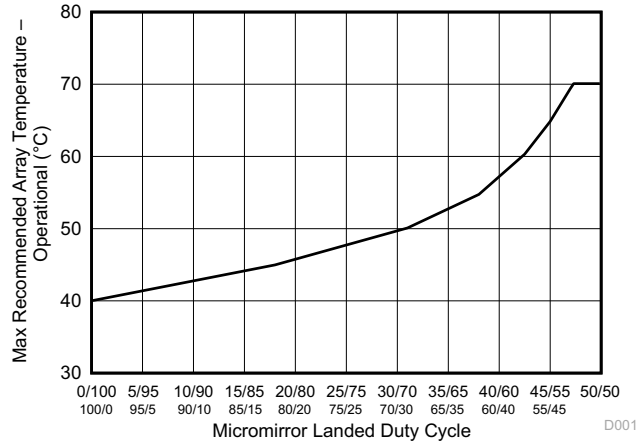

图 6-1. Max Recommended Array Temperature—Derating Curve
- (5) Per Figure 6-1, the maximum operational array temperature should be derated based on the micromirror landed duty cycle that the DMD experiences in the end application. Refer to Section 7.7 for a definition of micromirror landed duty cycle.
- (6) Long-term is defined as the usable life of the device
- (7) Array temperatures beyond those specified as long-term are recommended for short-term conditions only (power-up). Short-term is defined as cumulative time over the usable life of the device and is less than 500 hours for temperatures between the long-term maximum and 75°C, and less than 500 hours for temperatures between 0°C and – 20°C.